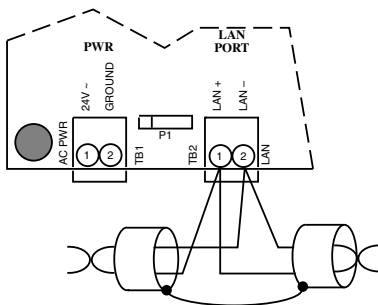

Figure 6. Sub-LAN Connections
1. Connect the + lead of the twisted pair sub-LAN cable to terminal TB2 – 1 (LAN+), see Figure 6.